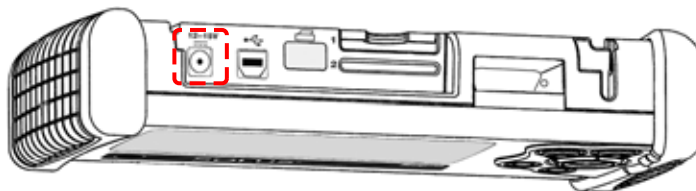

Figure 3-3 DC power supply input
1. Plug the 2.5 mm end of the AC/DC power supply cord into the DC power adapter input on the top of your scan tool (Figure 3-3).